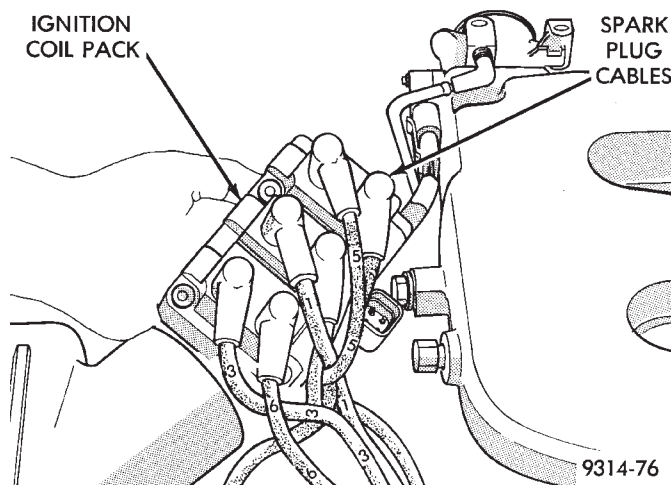

Fig. 51 Spark Plug Cable Identification
- (1) Remove air cleaner hose.
- (2) Disconnect electrical connector from coil pack.
- (3) Remove coil pack mounting screws.
- (4) Remove coil. The spark plug cables are numbered for cylinder identification (Fig. 51).